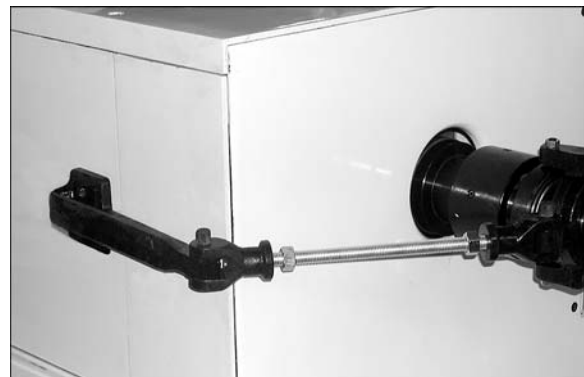

Figure 4
11. Assemble all linkage and attach to collet closer body (Figure 4).